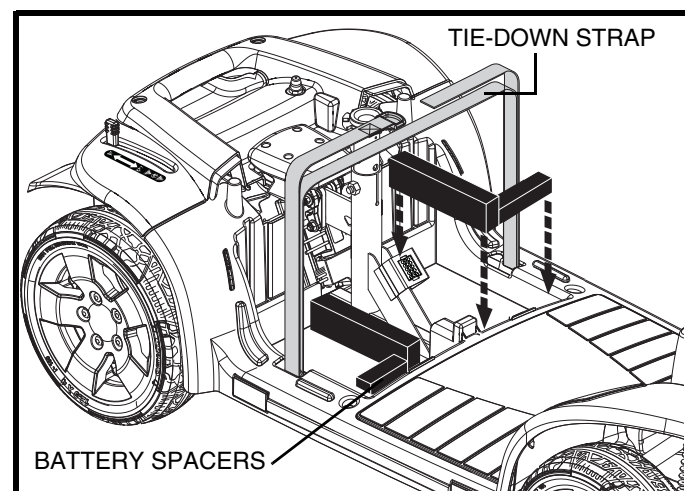

Figure 23. Battery Spacers
NOTE: If spacers are installed to secure the batteries, remove the spacers for safe keeping until the scooter is reassembled. **See figure 23.**
6. Reinstall the battery spacers if applicable. **See figure 23.**